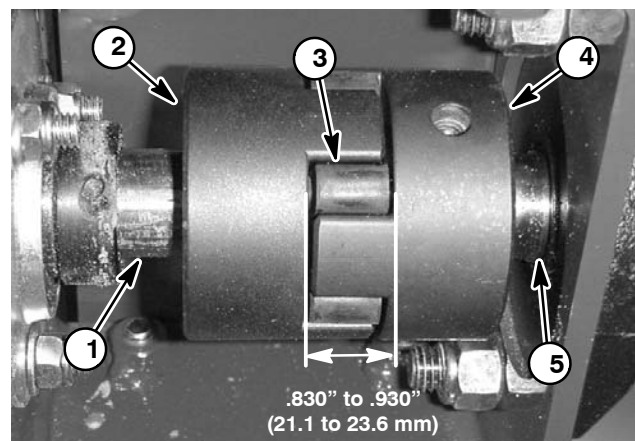

Figure 10
4. Align motor shaft with brush shaft. Secure brush motor to frame with two (2) cap screws (item 14), flat washers (item 7) and lock nuts (item 6). Torque lock nuts from 67 to 83 ft-lb (91 to 112 N-m).
5. Position coupling jaw on motor shaft to allow a gap between coupler jaw valleys from .830" to .930" (21.1 to 23.6 mm) (Fig. 10). Apply Loctite #242 (or equivalent) to threads of coupling set screw. Secure coupling jaw to motor shaft by torquing set screw from 125 to 155 in-lb (14.1 to 17.5 N-m).